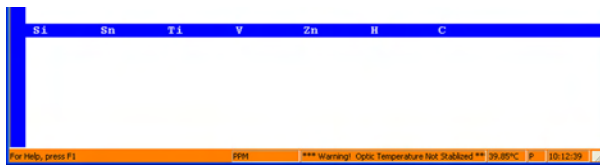

Figure 2-7, Temperature Instability Warning
the Analysis Program Screen along with a warning if the temperature is incorrect, Figure 2-7. The time it takes to reach operating temperature varies with the ambient temperature and can be as short as 30 minutes or as long as 3 hours in very cold climates. After the operating temperature has been reached, it will remain at that temperature as long as power has not been removed from the instrument. For that reason, it is a good practice to keep the instrument in the STANDBY mode when samples are not analyzed.
1. Place the MODE switch located on the operator's control panel to the STANDBY position, refer to Figure 2-7.